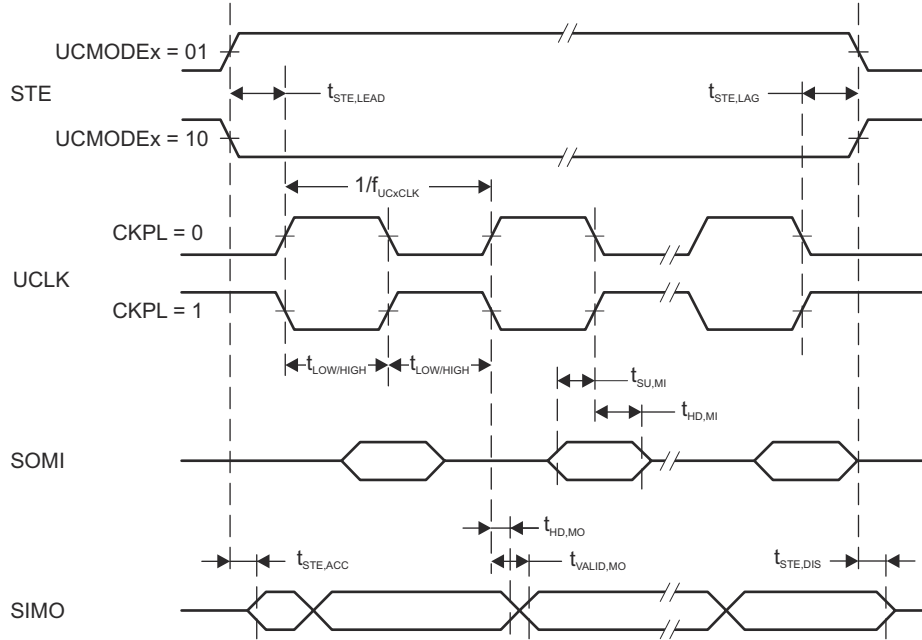
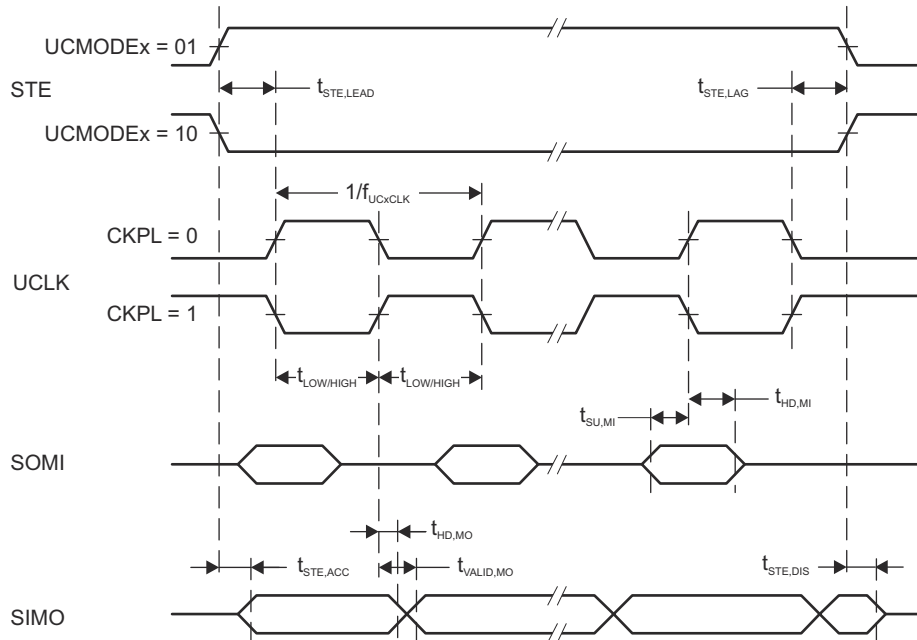

图 8-13. SPI Master Mode, CKPH = 0
图 8-14. SPI Master Mode, CKPH = 1
- (2) Specifies the time to drive the next valid data to the SIMO output after the output changing UCLK clock edge. See the timing diagrams in Fig 8-13 and Fig 8-14.
- (3) Specifies how long data on the SIMO output is valid after the output changing UCLK clock edge. Negative values indicate that the data on the SIMO output can become invalid before the output changing clock edge observed on UCLK. Refer to the timing diagrams in Fig 8-13 and Fig 8-14.